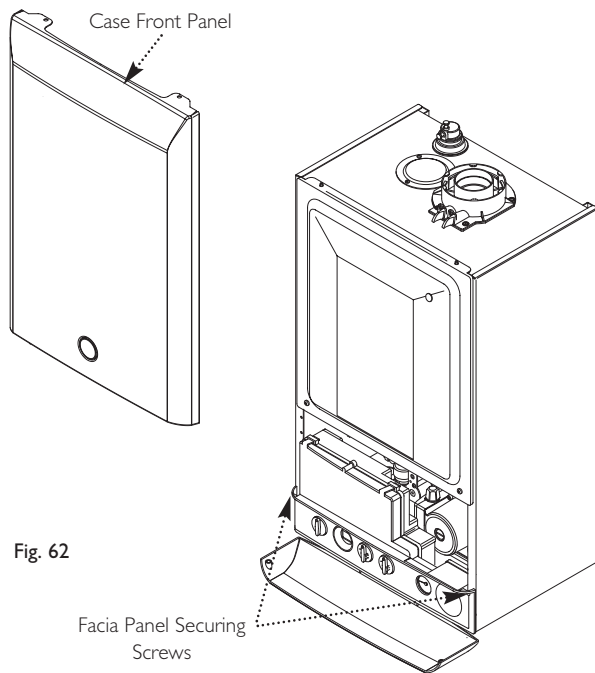

Fig. 62
5. Slacken the screws securing the fascia panel. Lift the outcase panel so that its securing tabs are clear of the fascia. Remove the panel, allowing the fascia to hinge down (Fig. 62).